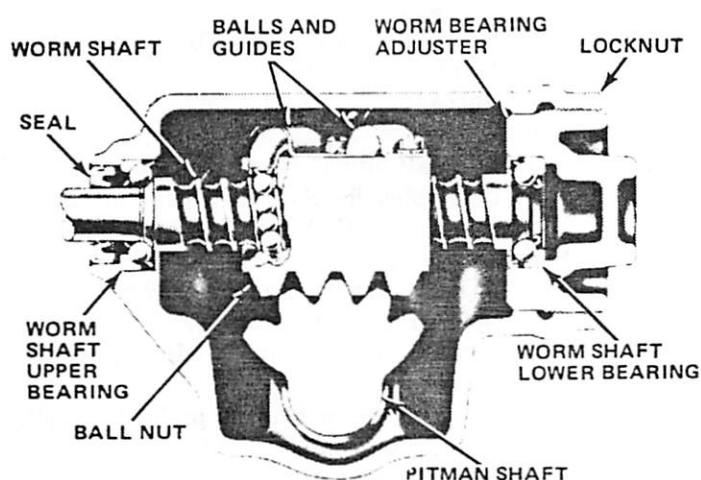

Fig. 2K-1 Recirculating Ball Manual Steering Gear
The manual steering gear used on Jeep vehicles is a recirculating ball design (fig. 2K-1). The steering gear wormshaft and ball nut are in line with the steering shaft in the column. Steering ratio of this unit is 24:1.
- (1) Raise vehicle and remove crossmember cover if equipped.
- (2) Check and correct steering gear mounting torque, if necessary.
- (3) Mark pitman arm and steering gear pitman shaft for assembly reference.
- (4) Remove pitman arm nut and remove pitman arm using Puller J-6632 (fig. 2K-2).
- (5) Loosen pitman adjusting screw locknut and back off adjusting screw 2 or 3 turns.
- (6) Remove horn button and cover.
- (7) Slowly turn steering wheel in one direction until stopped by gear; then turn wheel back 1/2 turn.